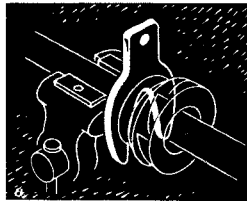

FIG. 2
2. Place frog (Figure 2 special tools) on shaft and position the shaft in the vise so that scribe mark lines up with the surface of the frog, facing the top of the shaft.